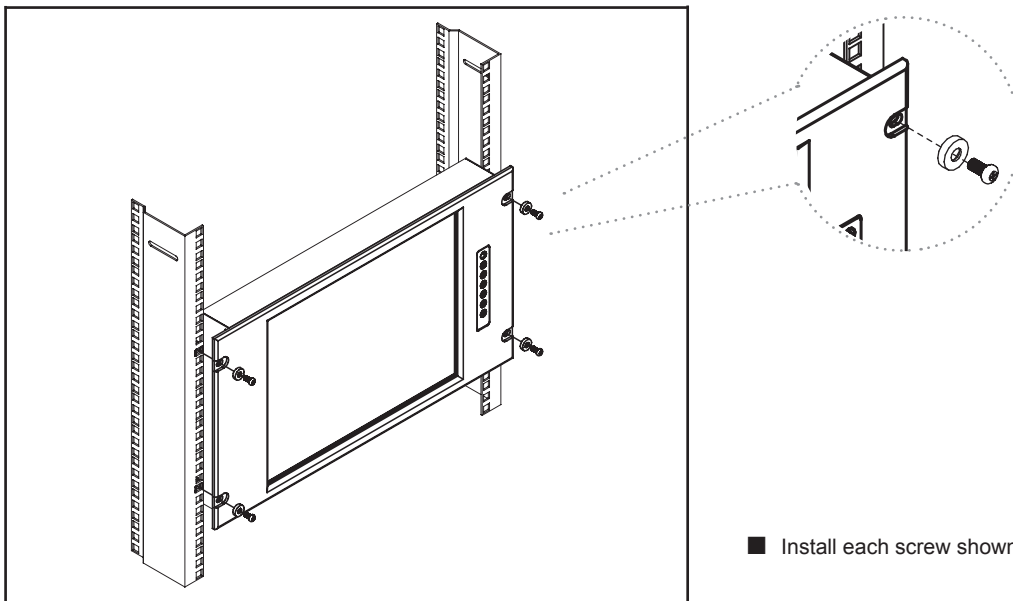

Figure 10.
■ Install each screw shown in Figure 10.